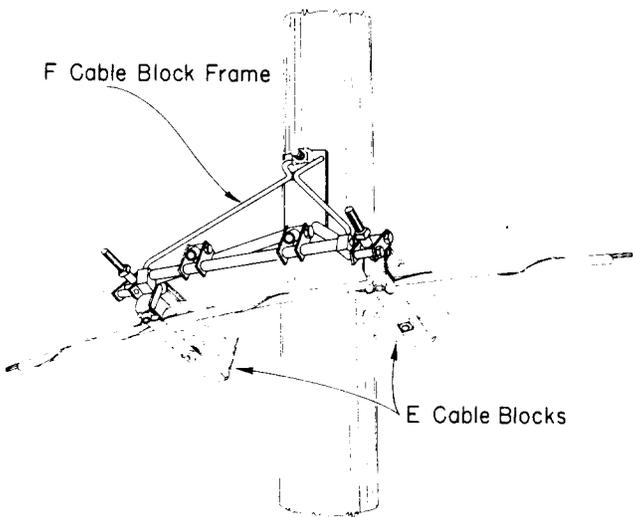

Fig. 12—F Cable Block Frame (With Two E Cable Blocks Installed)
6.06 The *F cable block frame* (Fig. 12) is used at outside corners. Use one E cable block where the pull is at least 3 feet but does not exceed 8 feet. Use two E cable blocks where the pull is greater than 8 feet but does not exceed 50 feet.